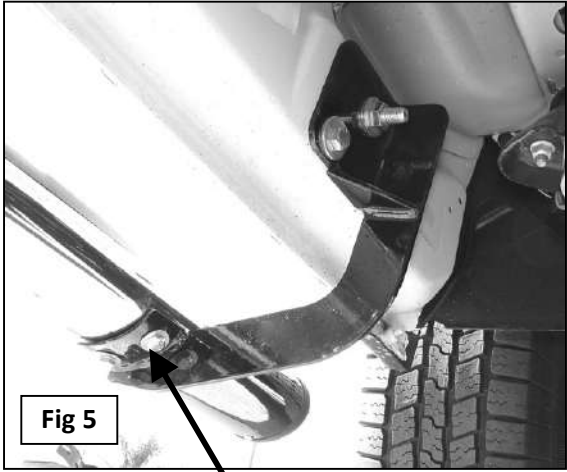

Fig 5
- Once all of the driver side Brackets have been installed, carefully position the driver Sidebar onto the (3) Mounting Brackets. Attach the Sidebar to the cradles on the Mounting Brackets with the included (6) 8mm x 25mm Hex Bolts, (6) 8mm Lock Washers, and (6) 8mm Flat Washers, **(Figure 5)**. Do not tighten hardware at this time. **IMPORTANT:** If you are having any difficulty with installation, check Mounting Bracket location first. Use the illustration on **Page 1** to identify the Mounting Brackets and Sidebars.